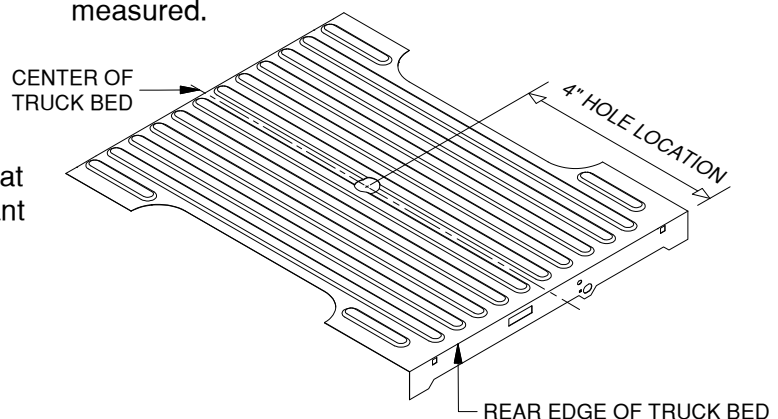

Figure A2.
8. **Mark the 4" hole location.** Using a tape measure hooked over the rear edge of the bed (at tailgate end), measure the location for the hole, as shown in Figure A2. Next, locate the center of the bed by measuring the distance between the wheel wells and dividing by two. The center of the hole will be at the intersection of the center of the bed and the first distance measured.